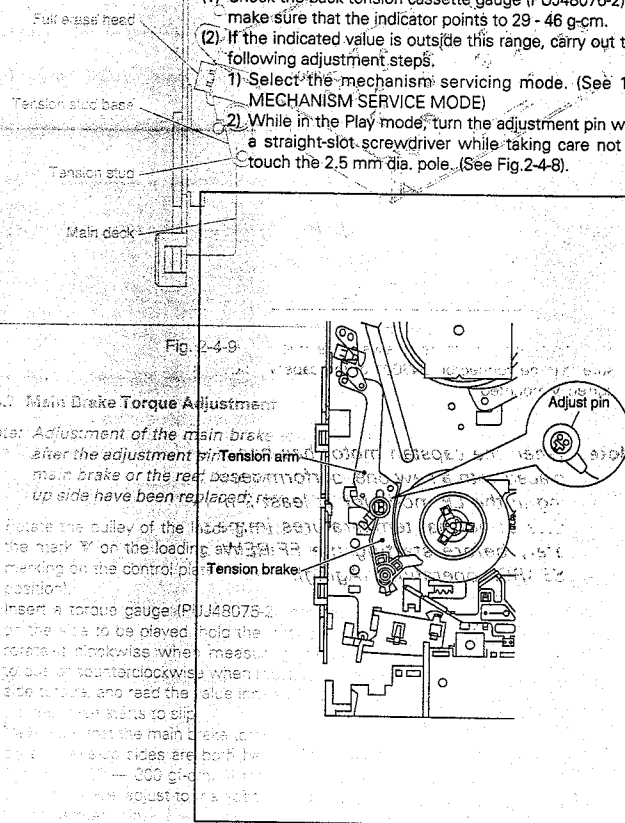

Fig. 2-4-8
- While in the Play mode, turn the adjustment pin with a straight-slot screwdriver while taking care not to touch the 2.5 mm dia. pole. (See Fig. 2-4-8).